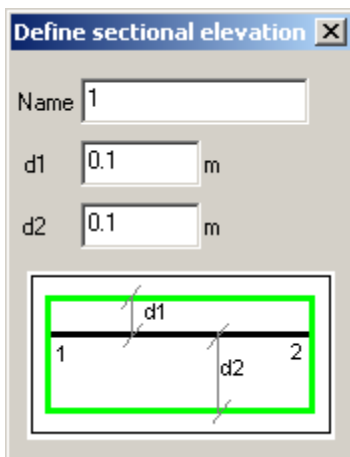

Figure 1.16.1 Define sectional elevation dialog box
- ⇒ In the **Define sectional elevation** dialog box (see Fig.1.16.1), remain all parameters by default (name of sectional elevation 1).